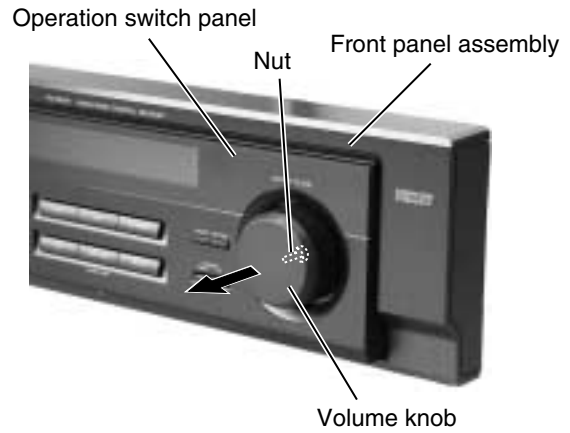

Fig.16
■ **Removing the system control board / power switch board (See Fig.16 to 18)**